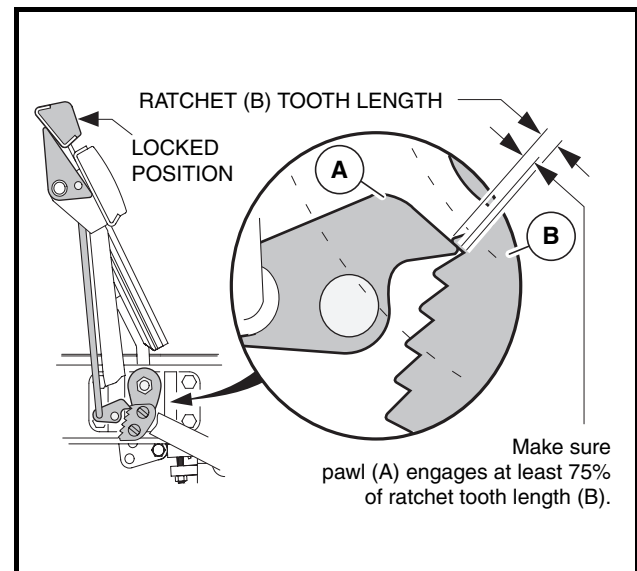

Figure 5-26 Ratchet/Pawl Tooth Engagement
- 4.4. With the park brake locked, make sure at least 75% of ratchet tooth length engages the pawl (**Figure 5-26, Page 5-18**). Tooth engagement should be between the two lines marked on the pawl.